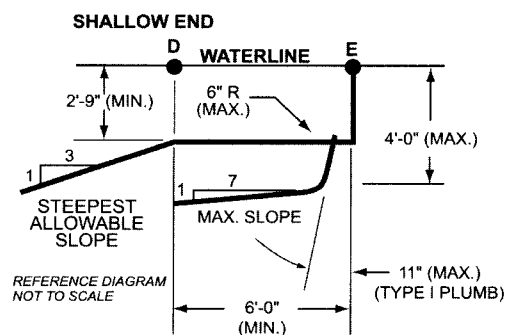

Figure 5 – Shallow end depths
5.6.1 The slope of the floor from the shallow end wall towards the deep area shall not exceed 1 foot in 7 feet (30 cm: 213 cm) to the point of the first slope change as shown in figure 5.
5.7 Shallow end water depths. Water depth in the shallow area shall be a minimum of 2 feet 9 inches (83.8 cm) except for those locations specified in 6.3 "Shallow End Detail for Beach and Sloping Entries." The water depth at the shallowest point shall not exceed four feet (121.9 cm) as shown in figure 5.